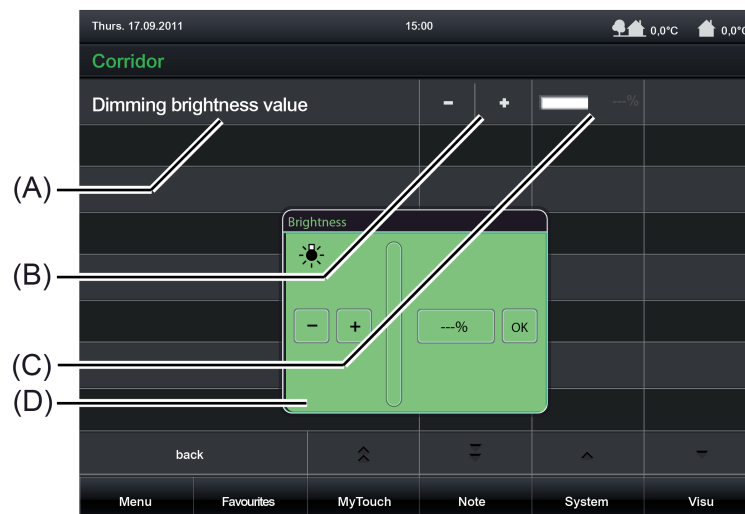

Figure 19: Example of operating and display elements of the function "Dimming brightness value"
The display area contains different display elements (Figure 19) that are influenced by parameters. A name can be assigned to each KNX function in the configuration software (A). The sensor surface for direct operation (B) displays two buttons, + and - depending on the configurations in the configuration software, which trigger value telegrams "100%" or "0%" (after a brief touch) or brightness telegrams in gradual intervals (after a long touch) when they are touched. The display area (C), which is a sensor surface for dialog operation at the same time, will contain brightness values as a bar graph and in plain text ("0...100 %") depending on the object value of the dimmer actuator feedback. After a device reset, the display shows "---%"